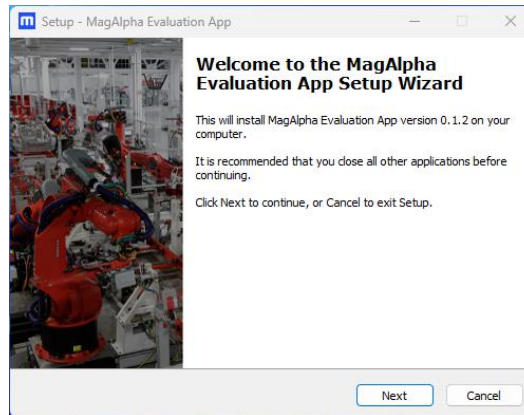

Figure 8: Start the Installation Wizard Application
1. Launch the app installer then click “Next” (see Figure 8).